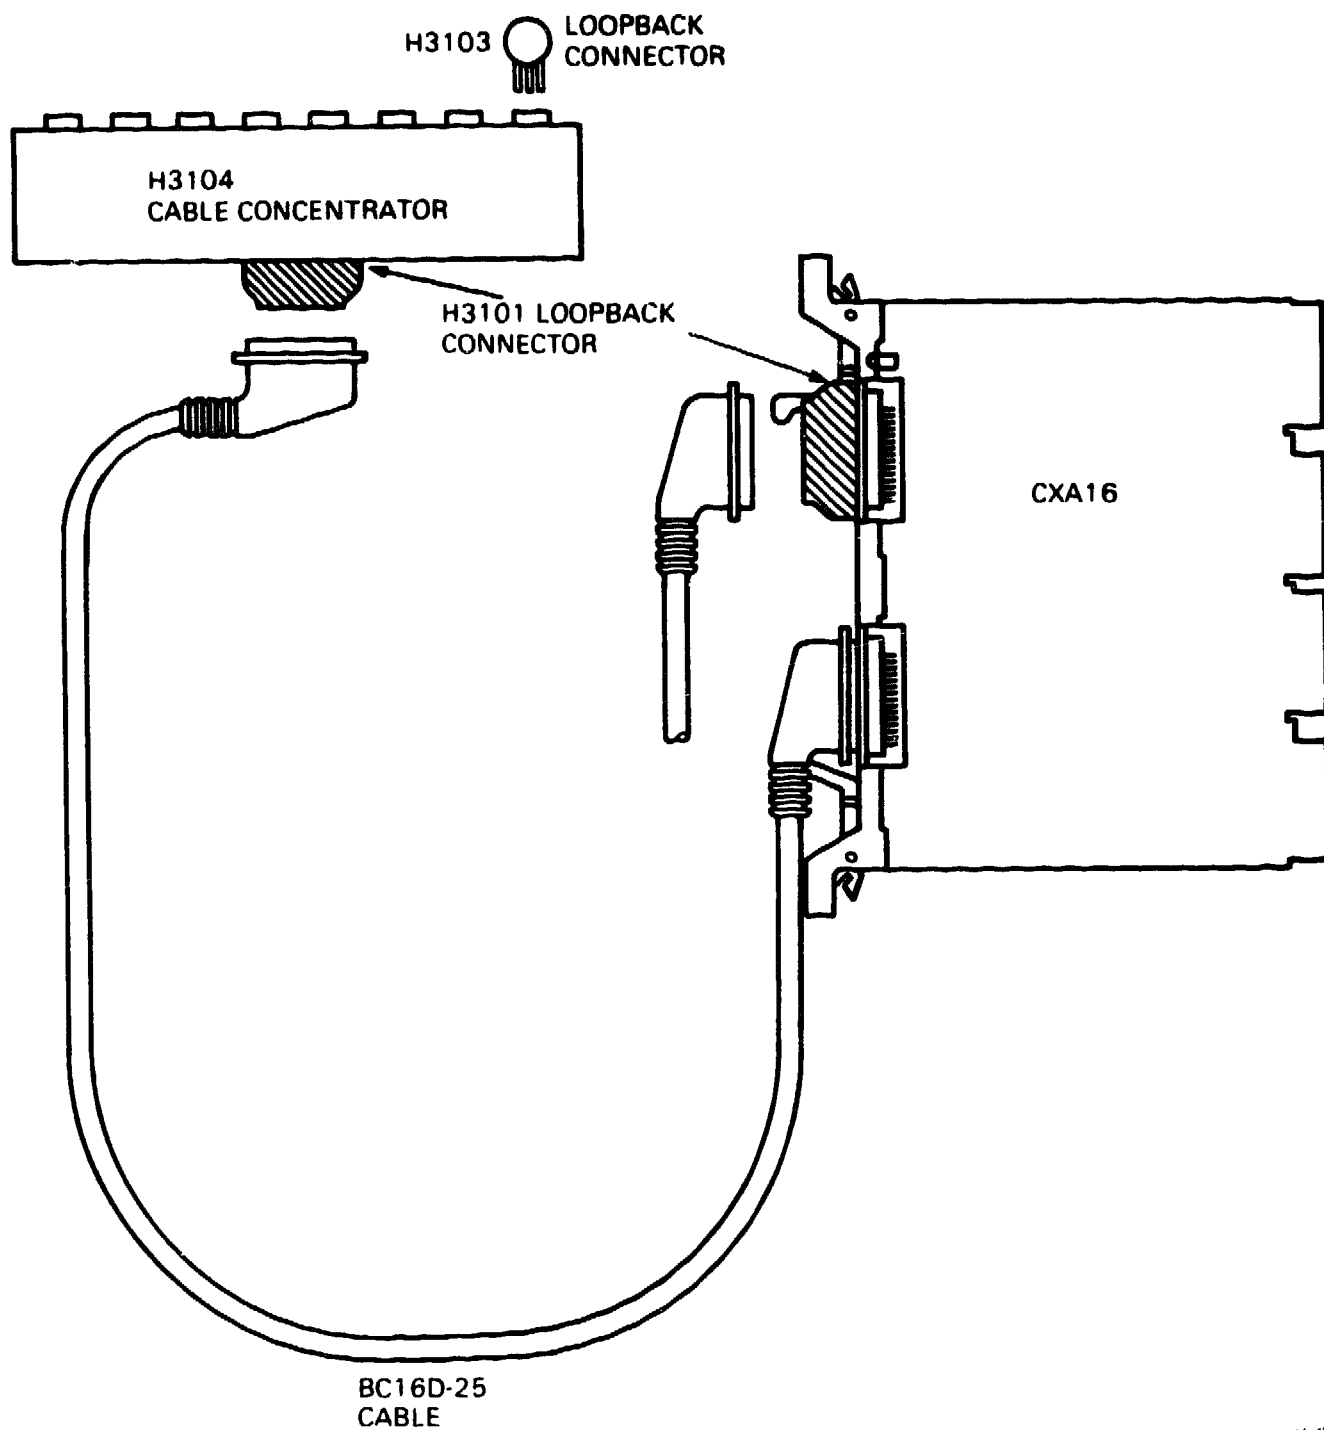

Figure 4-1 Cable Loopbacks
- b. Connect the cable to the H3101 loopback connector (see Figure 4-1).